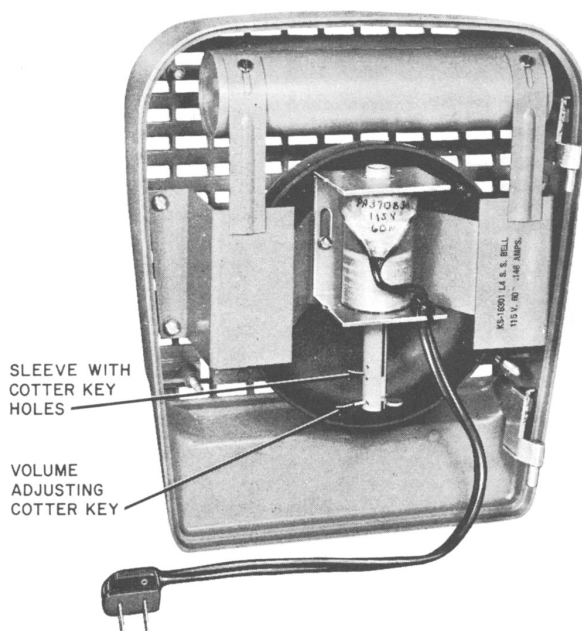

Fig. 8—KS-16301, List 4 Bell—Single Stroke
4.02 The KS-16301, List 4 (single-stroke bell) uses a cotter key volume adjustment. The signal is shipped with the key inserted through the lowest of the three holes in the sleeve that contains the plunger for maximum volume. To decrease volume, move cotter key to intermediate or top hole in the sleeve (Fig. 8).